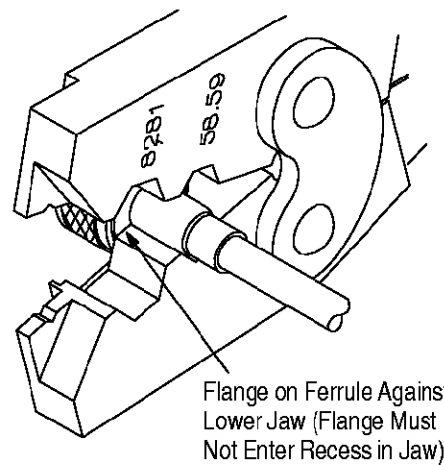

Figure 4
7. Place assembly in tool as shown in Figure 4. The cable should extend from the side of the tool with cable identification.